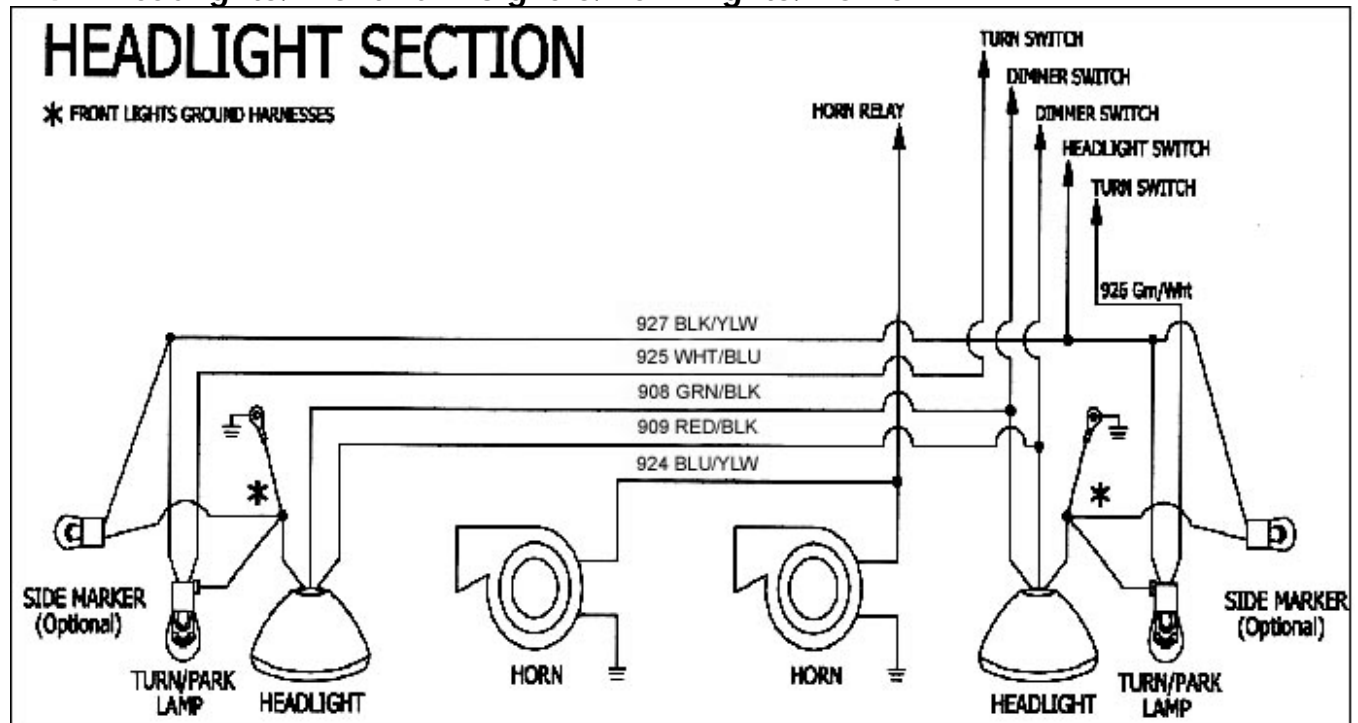
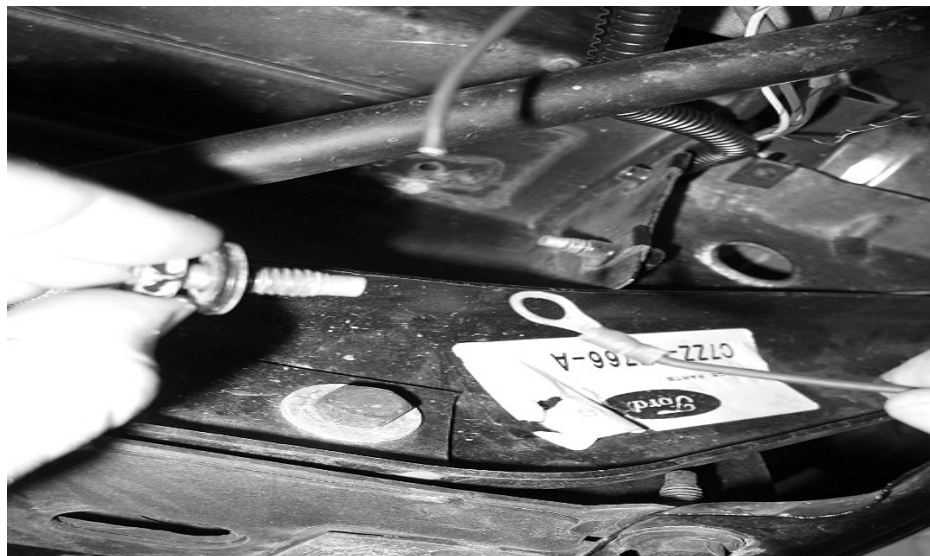

Figure 7-8 Front Lights and Horns
Figure 7-9 Front Lights Ground Harness
- 7.4.2 *The Front Lights Ground Harness has one 14 gauge wire and two 18 gauge wires. One end of the 14 gauge wire is pre-terminated and will need to be connected to a body bolt. **See Figure 7-9.** The other end of the 14 gauge wire is for the headlights ground. The two 18 gauge wires are to be connected to the Turn/Park Lamps ground and to the Side Marker Lamps ground. **See Figure 7-8.**